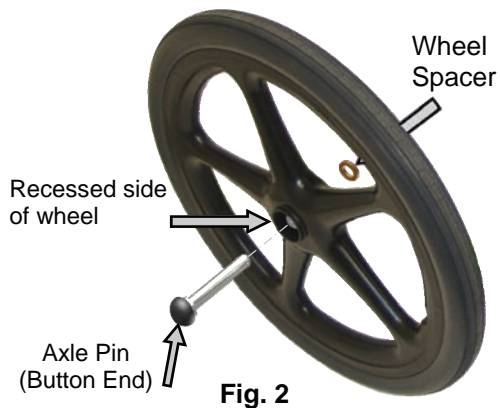

Fig. 2
- Remove axles and axles spacers from plastic bag. Insert an axle into a wheel from the recessed bearing side (fig. 2), push in button at end of axle to allow the axle to slide through the wheel bearings. Assemble 1 spacer onto axle at the back of the wheel while holding axle button in.